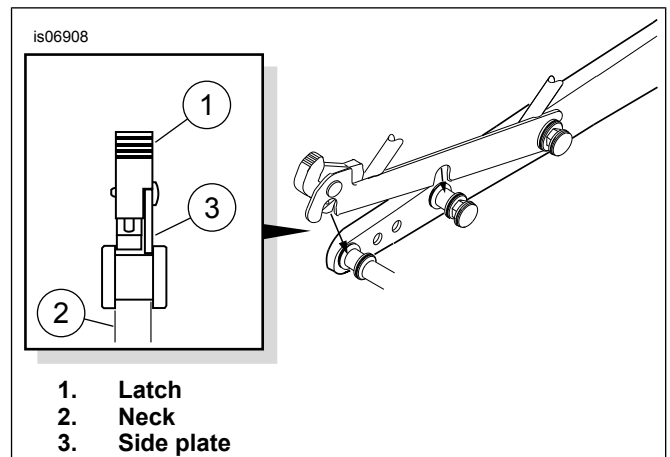

Figure 9. Pull back rotary latches and lower rack onto turn signal and rear docking points.
2. See Figure 9. Pull rotary latches back into rearmost position as shown. Position rear rotary latches overturn signal docking points, making certain latches and sideplates fit into the neck of the turn signal docking points as shown in the rear view. This may require some gentle squeezing or spreading of the sideplates. Middle notch in rack sideplate will rest over mid docking points as shown.